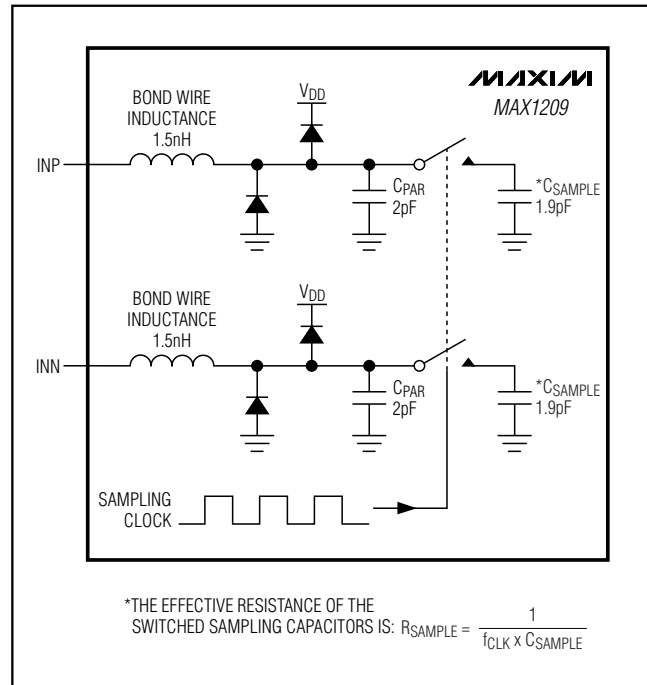
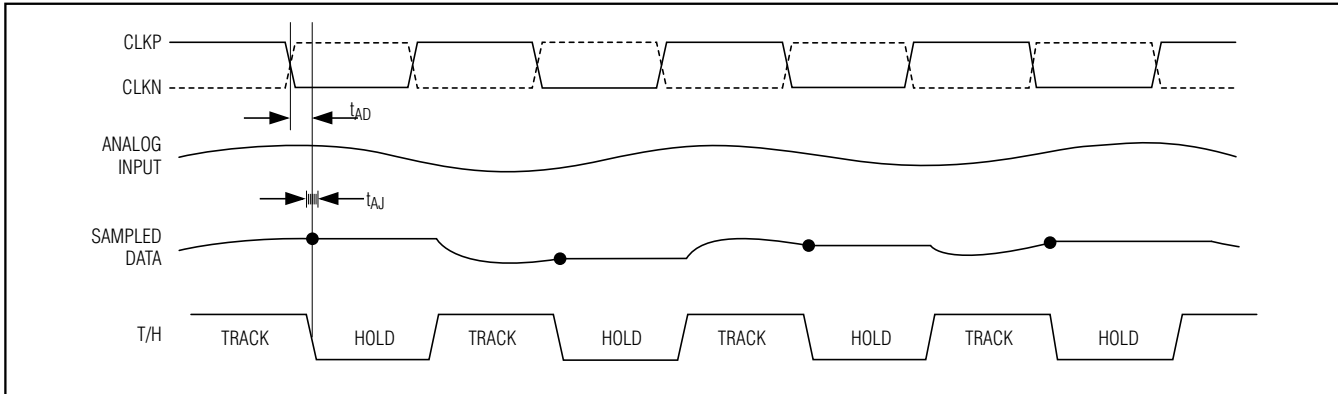

Figure 3. Simplified Input Track-and-Hold Circuit
Figure 4. T/H Aperture Timing
Figure 3 displays a simplified functional diagram of the input T/H circuit. This input T/H circuit allows for high analog input frequencies of 175MHz and beyond and supports a common-mode input voltage of $V_{DD} / 2 \pm 0.5V$.
The MAX1209 sampling clock controls the ADC's switched-capacitor T/H architecture (Figure 3), allowing the analog input signal to be stored as charge on the sampling capacitors. These switches are closed (track) when the sampling clock is high and open (hold) when the sampling clock is low (Figure 4). The analog input signal source must be capable of providing the dynamic current necessary to charge and discharge the sampling capacitors. To avoid signal degradation, these
- INP, INN analog inputs are disconnected from the internal input amplifier (Figure 3).